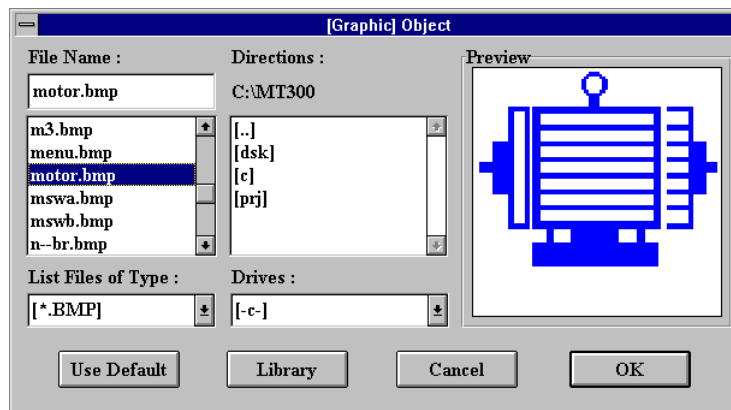

Fig. 3-7: the Graphic Object Dialog
1) Choose the **Graphic** option in the **Object** menu or click on the **Graphic** icon in the toolbox, move the cursor to the upper-left corner of the graphics, click left. A dialog box as Fig. 3-7 is popped up.